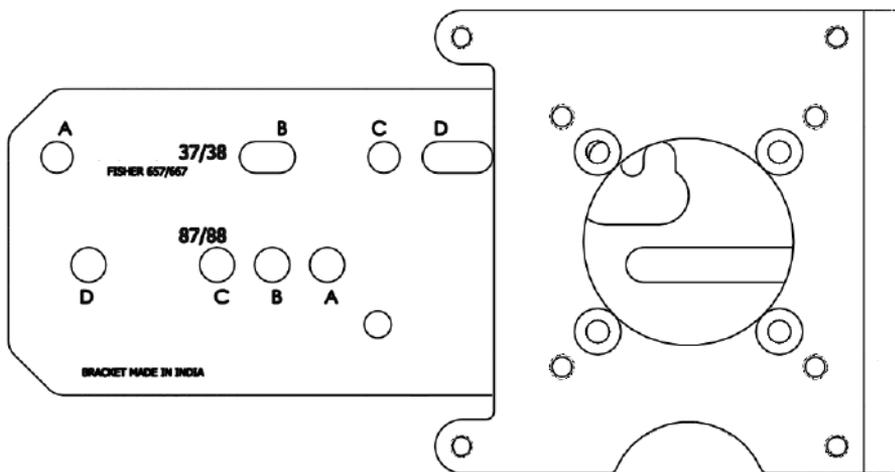

Figure 15 Reciprocating Valve Mounting Bracket
2. Mount the SVI II AP reciprocating mounting bracket to the actuator using two (2) 5/16 - 18 UNC cap screws. The mounting location of the bracket depends on the size and stroke of the actuator. Refer to Figure 15 on page 45 and Figure 6 on page 46.
11. Adjust the turnbuckle until the hole in the SVI II AP lever is aligned with the indicating hole in the bracket. Tighten both turnbuckle lock nuts. See Figure 15 on page 45.